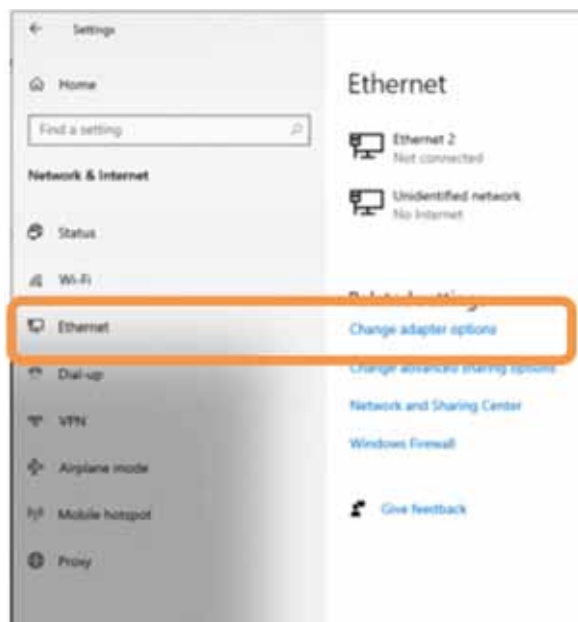

Figure 1-6. Adapter options
3. Set the IP address of the laptop to the current customer IP address (must be supplied by the customer)¹. For setting the IP address, see figure 1-6 ff.
- Call up the adapter options in the Ethernet (Fig. 1-6).